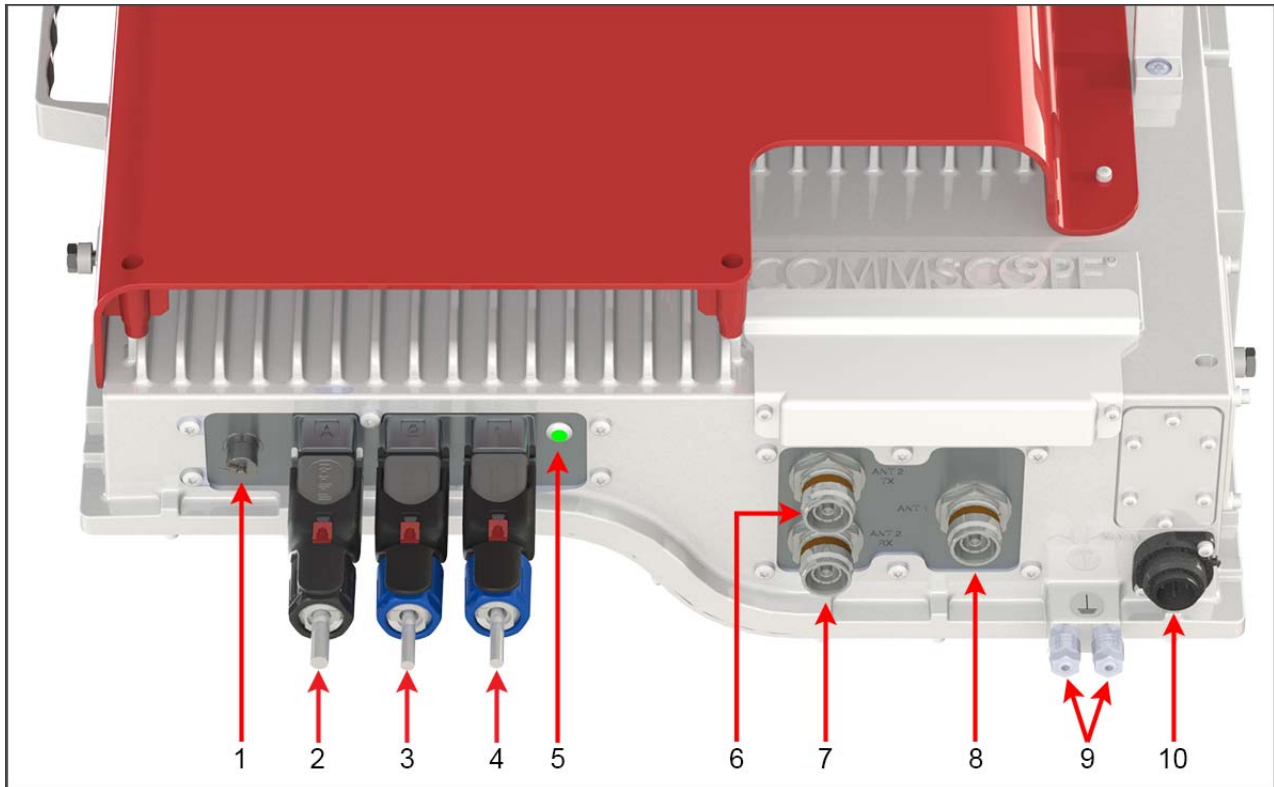

Figure 2. Location of CAP M 4/70/80 Connectors and Power LED
- Figure 2 shows the connectors and Power LED on the CAP M
- Table 2 on page 7 maps the callouts in Figure 2 and describes the connectors and Power LED.